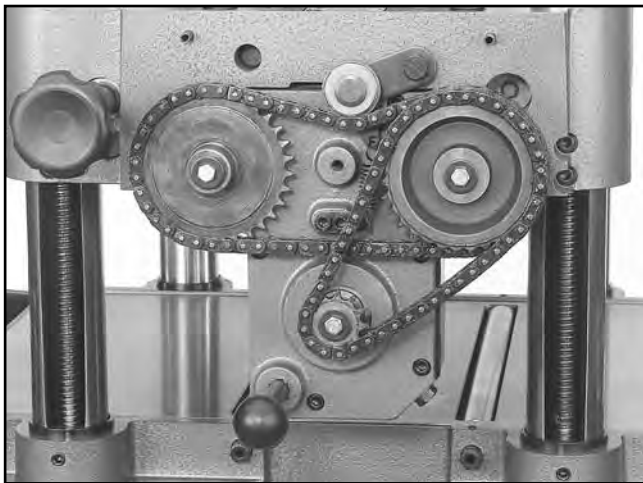

Figure 21. Gearbox.
2. Check the bolts that hold the sprockets in place. Inspect the drive chains to ensure that the retaining clips are in place. Replace the clips if necessary. See **Figure 21**.